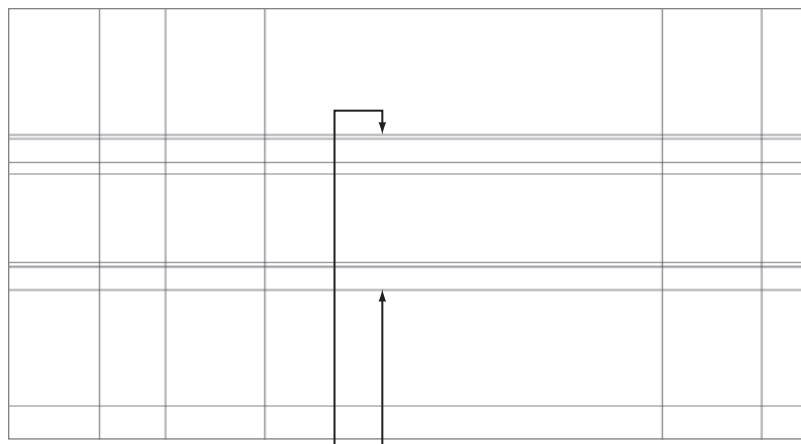

FIGURE 10.12 The cutting edges for trimming the roof extension (top) and selecting the trim points (bottom)
5. The roof extends a little further than the rest of the roof where the hot tub is located. Start the TRIM command, and select the two lines shown in Figure 10.12 (top).
After choosing the cutting edges, pick above and below the cutting edges as shown in Figure 10.12 (bottom) to trim the construction lines.